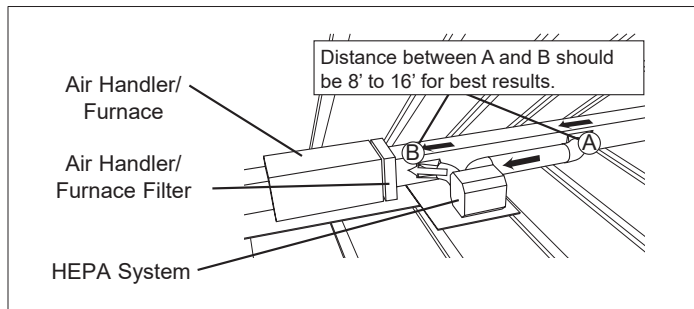

Figure 13. Typical Return to Return Application (Horizontal)
- Hook one end of the clip onto the overlapping section of carbon pre-filter as shown in figure 13.